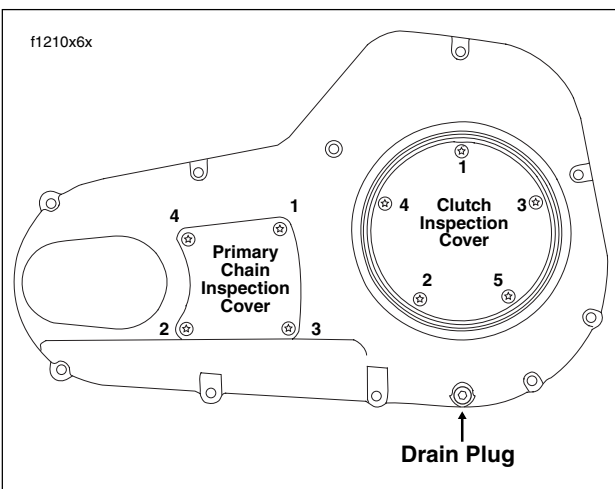

Figure 6-23. Primary Chaincase Cover
2. Remove magnetic drain plug at bottom of primary chaincase cover. Drain lubricant into suitable container. See Figure 6-23.
9. Using a T27 TORX drive head, install five screws (with captive washers) to secure clutch inspection cover to the primary chaincase cover. Alternately tighten screws to 84-108 **in-lbs** (10-12 Nm) in the pattern shown in Figure 6-23.